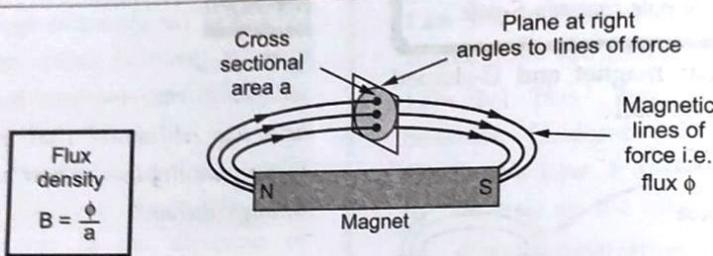

Fig. 1.6.1 Concept of magnetic flux density
- It is shown in the Fig. 1.6.1.